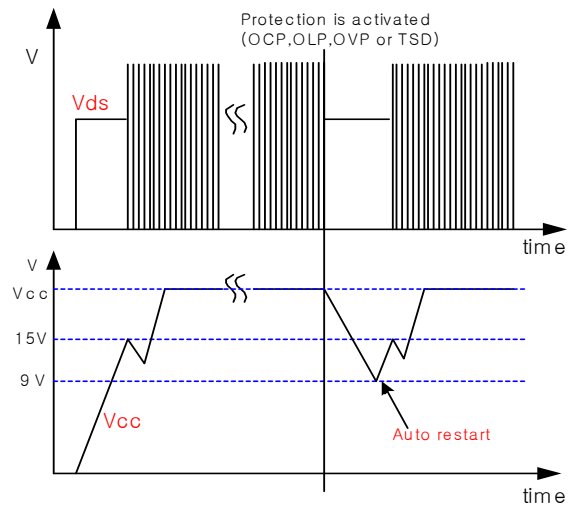

Figure 3. Auto restart operation after protection
3. Protection function : FS8S0965RCB has 4 self protective functions such as abnormal over current protection (AOCP), over load protection (OLP), over voltage protection (OVP) and thermal shutdown (TSD). Because these protection circuits are fully integrated into the IC without external components, the reliability can be improved without cost increase. In the event of these fault conditions, the FPS enters into auto-restart operation. Once the fault condition occurs, switching operation is terminated and MOSFET remains off, which forces V_{cc} to be reduced. When V_{cc} reaches 9V, the protection is reset and the supply current reduces to $80\mu A$. Then, V_{cc} begin to increase with the current provided through the start-up resistor. When V_{cc} reaches 15V, the FPS resumes its normal operation if the fault condition is removed. In this manner, the auto-restart alternately enables and disables the switching of the power MOSFET until the fault condition is eliminated as illustrated in figure 3.